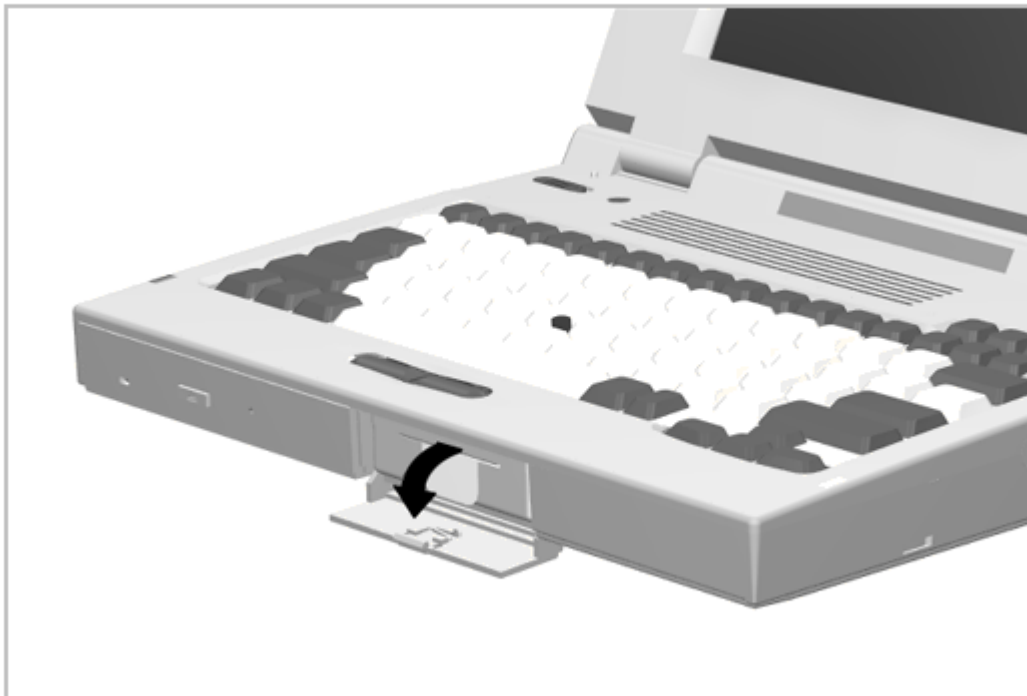

Figure 5-20. Removing the Hard Drive Bay Door
1. Position the computer on a tabletop so the front edge of the computer is just off the edge of the table (Figure 5-20).
2. Open the hard drive bay door until you feel resistance, then continue to open the door (Figure 5-20) until the door is released.